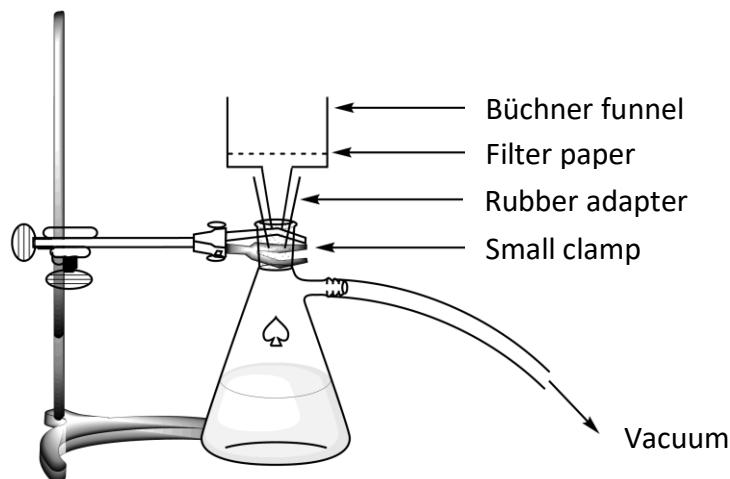

Figure 2. Setup for the vacuum filtration
8. **Set up** a vacuum filtration apparatus (see Figure 2) using a Büchner funnel, a filter paper and a suction flask. This should be secured to the laboratory stand with a small clamp. Then **raise** your HELP card. A lab assistant will show you how to connect the suction flask to the vacuum source.